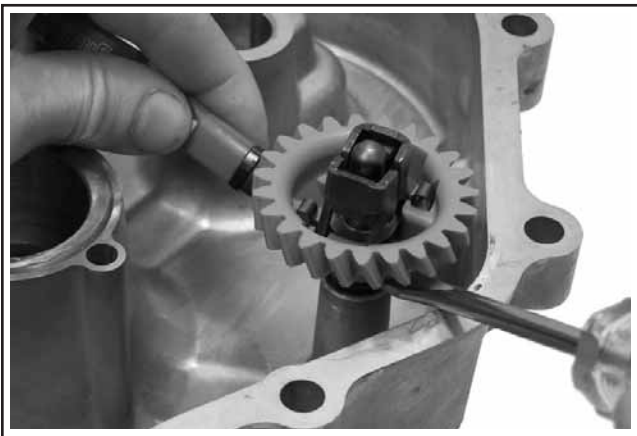

Figure 9-12. Removing Governor Gear.
1. Use two small screwdrivers and carefully pry upward to remove the regulating pin and governor gear assembly. See Figure 9-12.